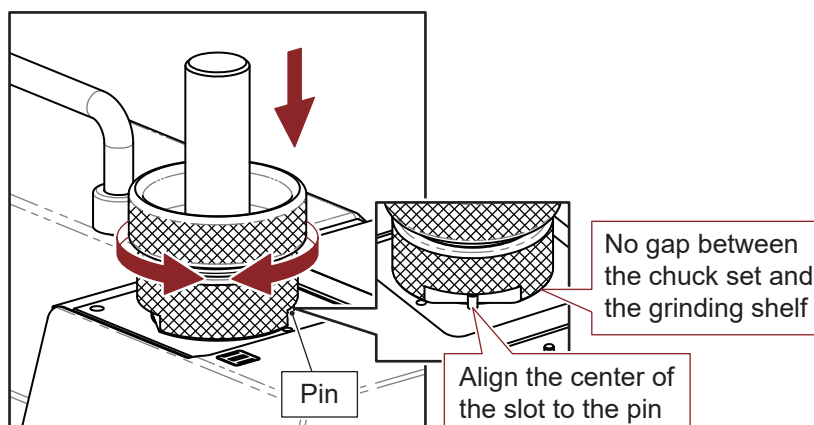

Fig. 9-2
2. Web Thinning (Fig. 9-2)
- ① Insert the chuck set into the web thinning grinding shelf (II), push the chuck set gently and turn it clockwise and counterclockwise until the grinding noise stops.
- ② Take the chuck set out, turn it to the other side and grind the drill in the same way.